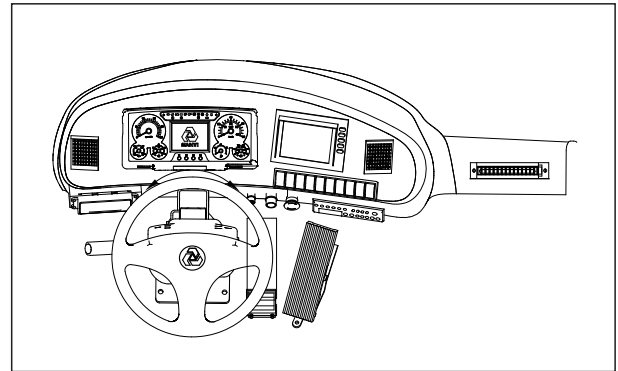

Fig 4.25
4. Turn the steering wheel in both directions to dissipate the pressure in the steering accumulator to prevent accidental steering during bleed down.(see Fig 4-25).